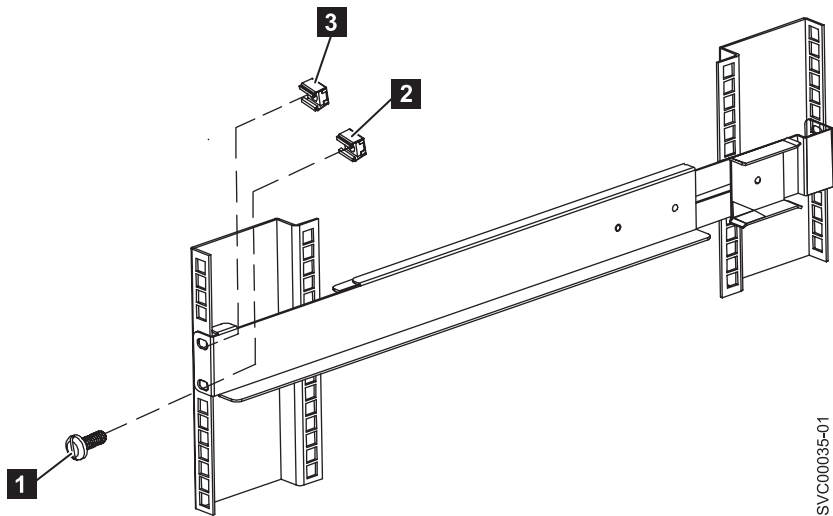

Figure 11. Securing the front rail on the 2145 UPS-1U
7. Install two clip nuts ( **2** and **3** in Figure 11) to the front of the rack, then attach the rail using just one M6 x 10 screw in the bottom mounting hole **1**.